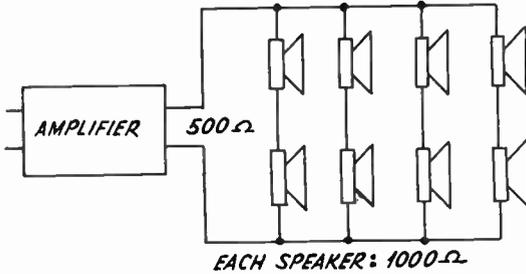

FIG. 12
Fig. 12 shows pictorially how eight magnetic speakers, each with an impedance of 1,000 ohms, would be connected to match a 500 ohm amplifier output transformer. The same formula for resultant impedance applies for speakers as well as input lines. For Fig. 12, *n*, the number of parallel branches, equals 4; *m*, the number of
a control for each speaker in Fig. 12. In all cases the speaker impedance governs the choice of L pad. Use a control designed to match the speaker voice coil or driving coil impedance. Usual ranges of speaker L pads are 1,000 to 2,000 ohms for magnetic types and 5 to 50 ohms for electro-dynamic or permanent magnet-dynamic speakers.
5. Proceed with the circuit and installation as shown in Figs. 12 and 13.
Below are shown the L-pad controls of the individual speakers shown in Fig. 12. The impedance of the pads are 1,000 ohms each.